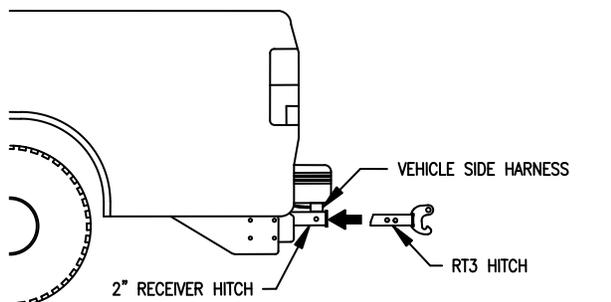

Figure 8. RT3 Attachment Hook G10598
1. Insert RT3 Attachment Hook into 2" Receiver Hitch. Refer to Figure 8.